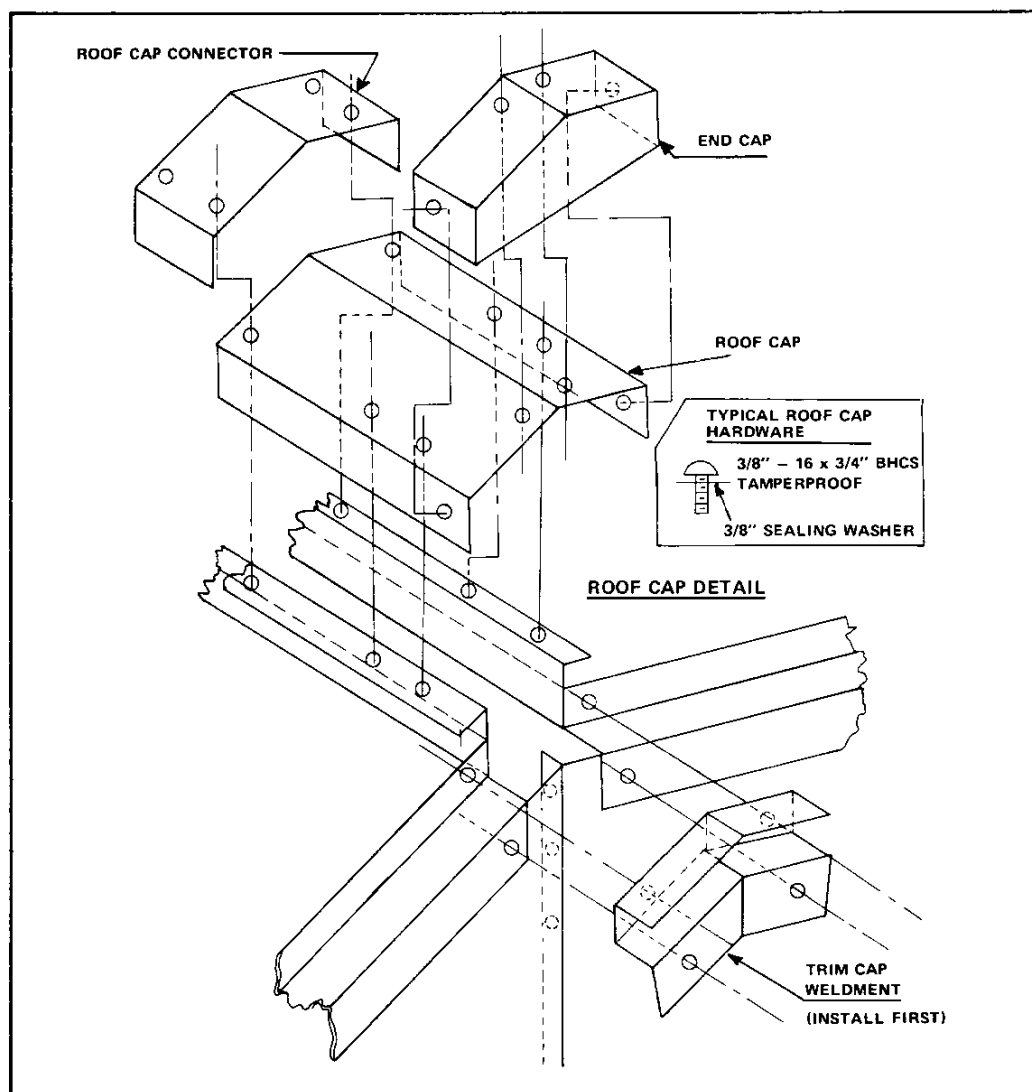

Figure 3-8
8. Install roof caps (see Figure 3-8).